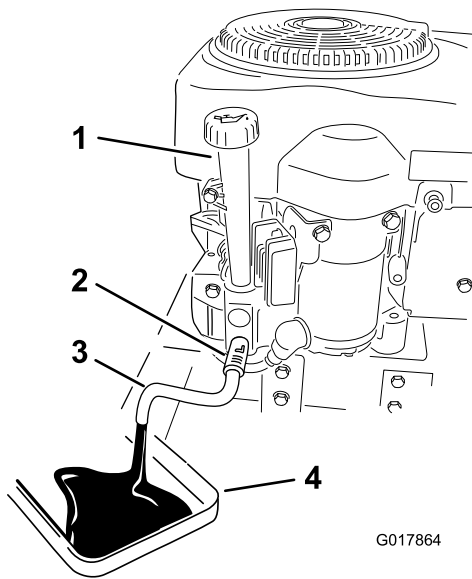

Figure 31
4. Clean the area around the drain valve and on the machine frame, locate the oil-drain hose, and slide it over the drain valve (Figure 31).
6. Place a drain pan underneath the machine directly below the drain hose (Figure 31).
8. Remove the oil-fill cap/dipstick (Figure 31).
12. Slowly pour approximately 80% of the specified amount of oil into the fill hole (Figure 31).